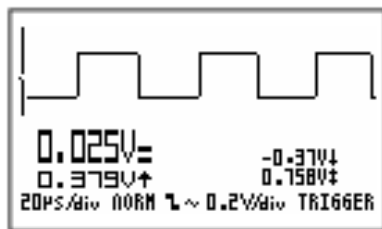

Fig 58
- **norm** = *trigger normale* (fig. 58)